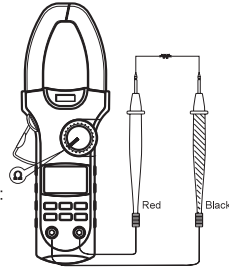

Figure 4
B.Measuring Resistance (See Figure 4)